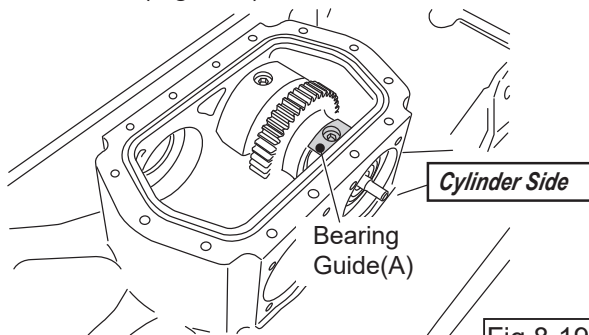

Fig.8-19
- Remove a bolt (19) that assemble the eccentric rotor of cylinder side of driven shaft, then remove the eccentric rotor (18) .
- Assemble the bearing guide (A) to the mounting hole of driven shaft that removed the eccentric rotor.(Fig.8-19)